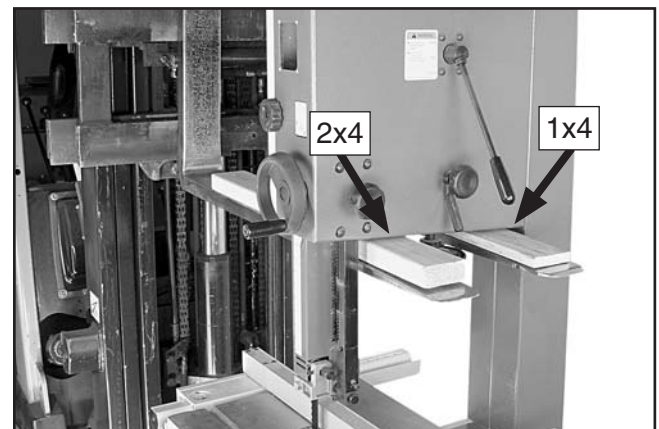

Figure 7. Using wood shims to lift the bandsaw.
4. Carefully position the forks of the forklift under the bandsaw head, as shown in **Figure 7**, then place a 1x4 wood shim between the head and the right fork and a 2x4 wood shim between the head and the left fork.